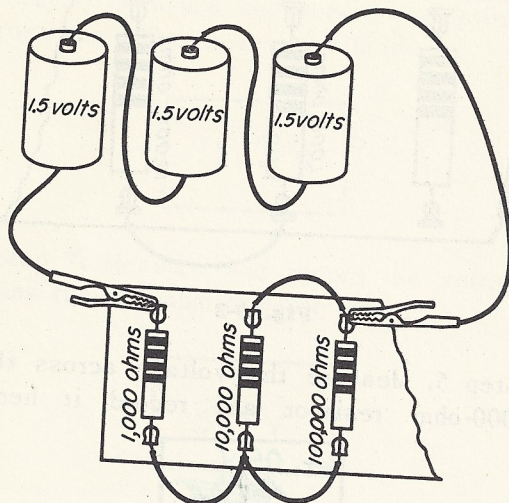

Fig. 9-5
Step 12. Connect the battery across the resistor circuit, as shown in Fig. 9-5.